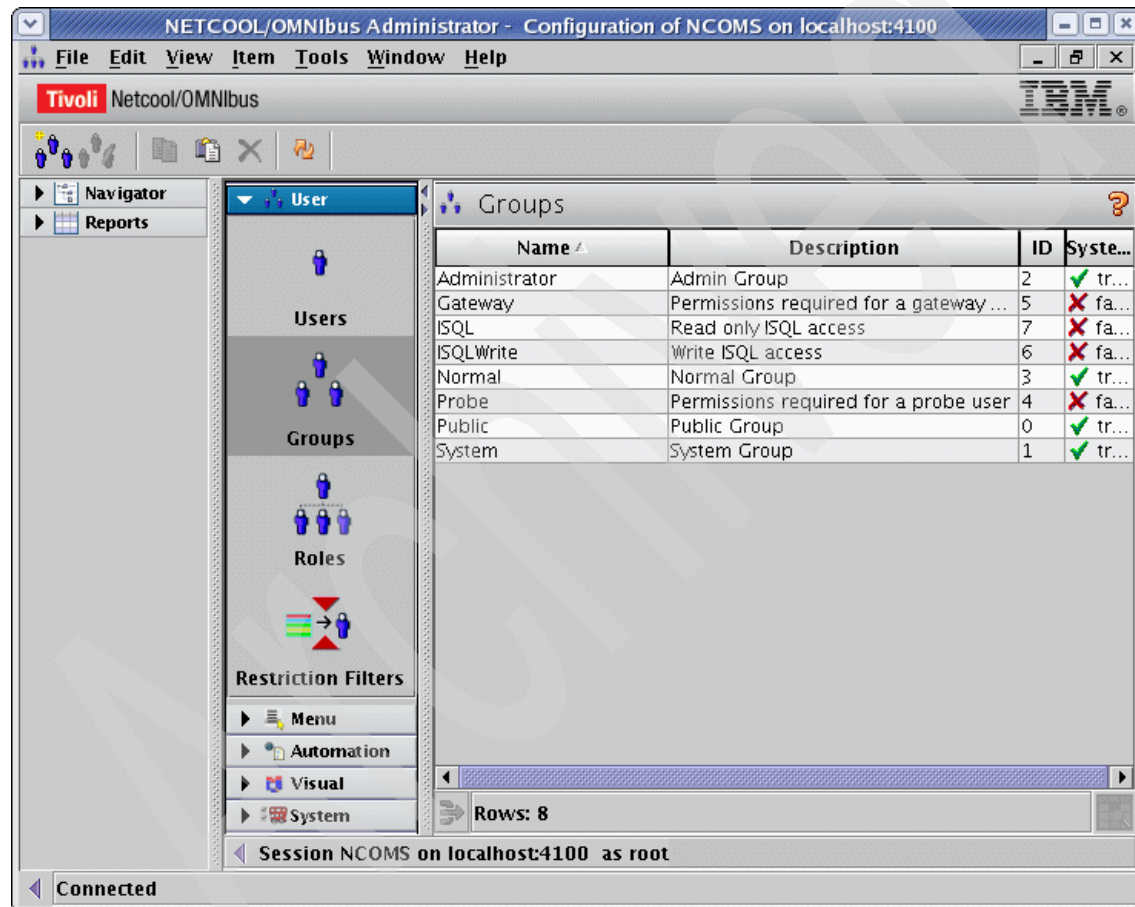

Figure 4-18 IBM Tivoli Netcool/OMNIBus Administrator Groups tab
1. From the main IBM Tivoli Netcool/OMNIBus Administrator window, click the **Users** tab and then click **Groups**, as shown in Figure 4-18.